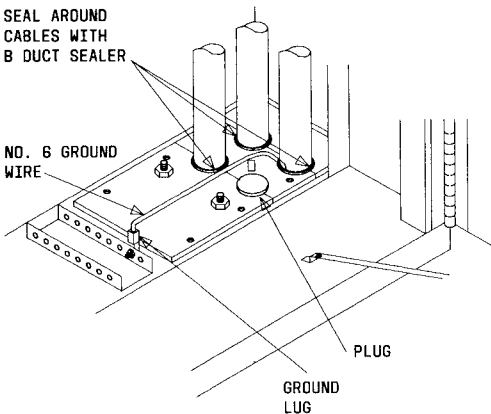

Fig. 24—Terminating Ground Wire
5.10 Connect the No. 6 ground wire to the ground lug located in the bottom of the splicing compartment (Fig. 24).